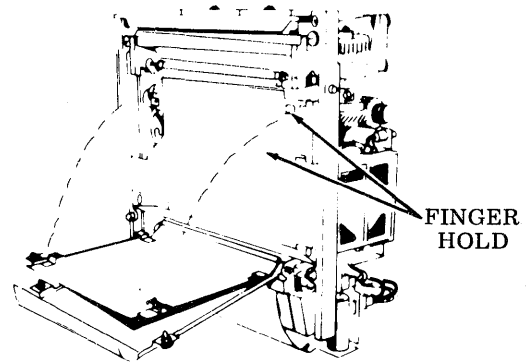

Fig. 9—Circuit Card Removal
5.03 Remove two screws that secure circuit card cover to the bottom of the printer and allow cover to hang down (Fig. 9).
5.04 Using finger hold and a firm grip of the card edge on opposite side as shown in Fig. 9, apply an even pulling force and unplug card from the two rows of magnet assembly contacts.